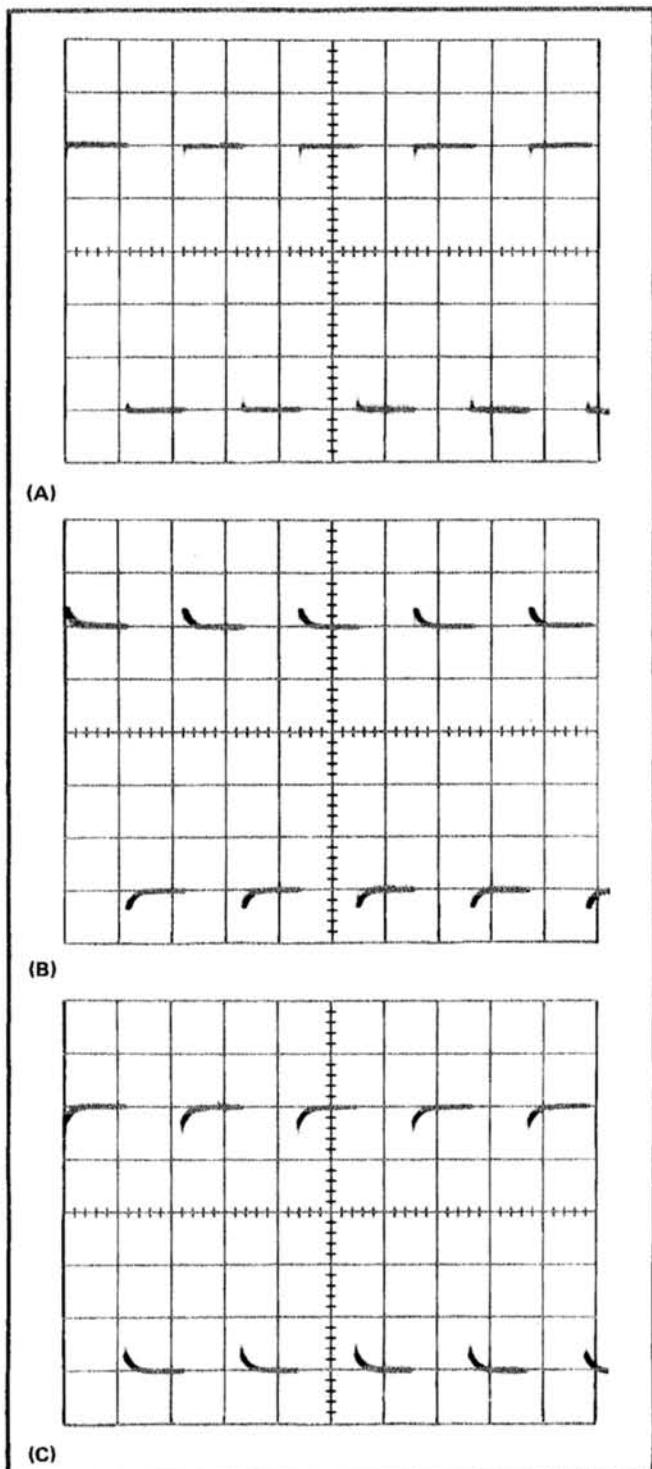

Fig. 5-3. Typical waveform showing (A) Correct adjustment of Input Attenuator Time Constant. (B) and (C) incorrect adjustment.
- CHECK—The square wave display for flat tops (see Fig. 5-3).
- CHECK—Each square wave for a flat bottom, using Fig. 5-3 as a guide.